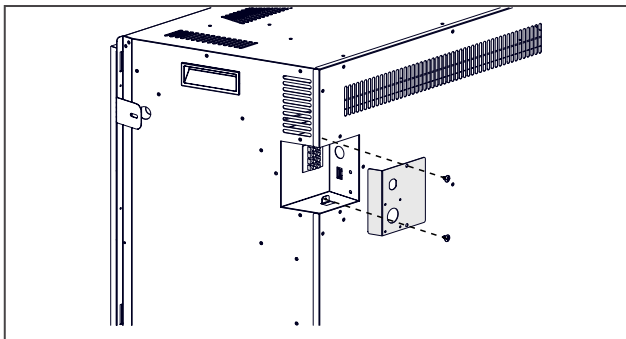

Fig. 20
- Locate the desired 2 conductor or 3 conductor wire cable to the right side of the enclosure for the hard-wiring installation based on the desired 120 V or 240 V heat output capability (**Fig. 20**).